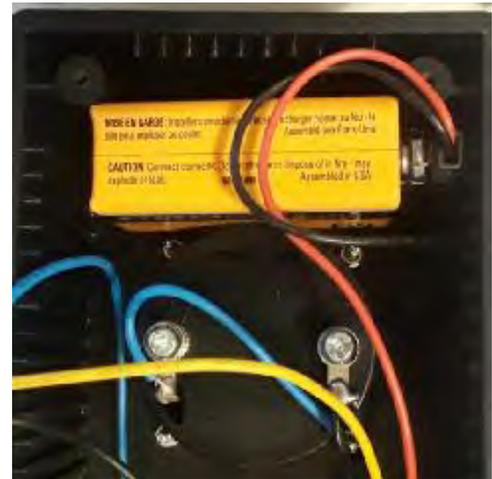

Figure 13 - Battery Placement
- 2) Locate the 9V battery and attach it to its connecting snap. Keeping its wire leads from tangling, slide the battery down into the void between the “top” of the meter’s round body and the enclosure body “top” end panel, with the battery snap leads to the right. Figure 13 shows the battery stowed in this location. This is the location at which the battery will be stored for meter operation and use. Note that in this photo from the construction of the prototype ESR meter, the wire colors are different than those used in these instructions and in later builds of the ESR meter.